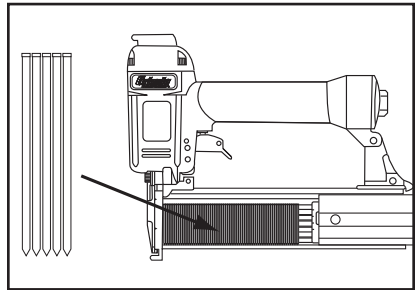

Figure 4. Loading nails into magazine.
4. Point the nailer down and insert a stick of brad nails into the magazine, as shown in **Figure 4**. Make sure that the pointed ends of the nails rest in the slot at the bottom of the magazine.